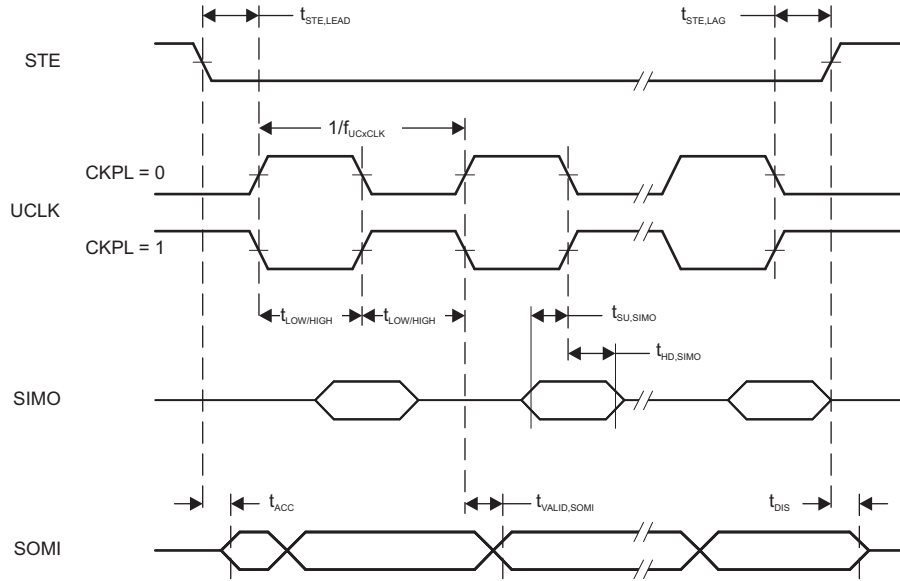
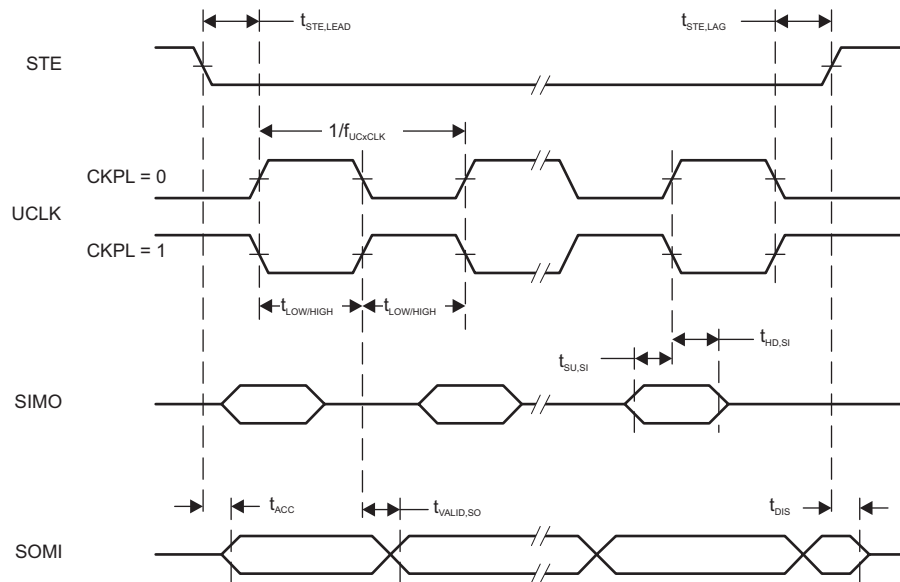

Figure 5-12. SPI Slave Mode, CKPH = 0
Figure 5-13. SPI Slave Mode, CKPH = 1
- (2) Specifies the time to drive the next valid data to the SOMI output after the output changing UCLK clock edge. See the timing diagrams in Figure 5-12 and Figure 5-13.
- (3) Specifies how long data on the SOMI output is valid after the output changing UCLK clock edge. See the timing diagrams in Figure 5-12 and Figure 5-13.